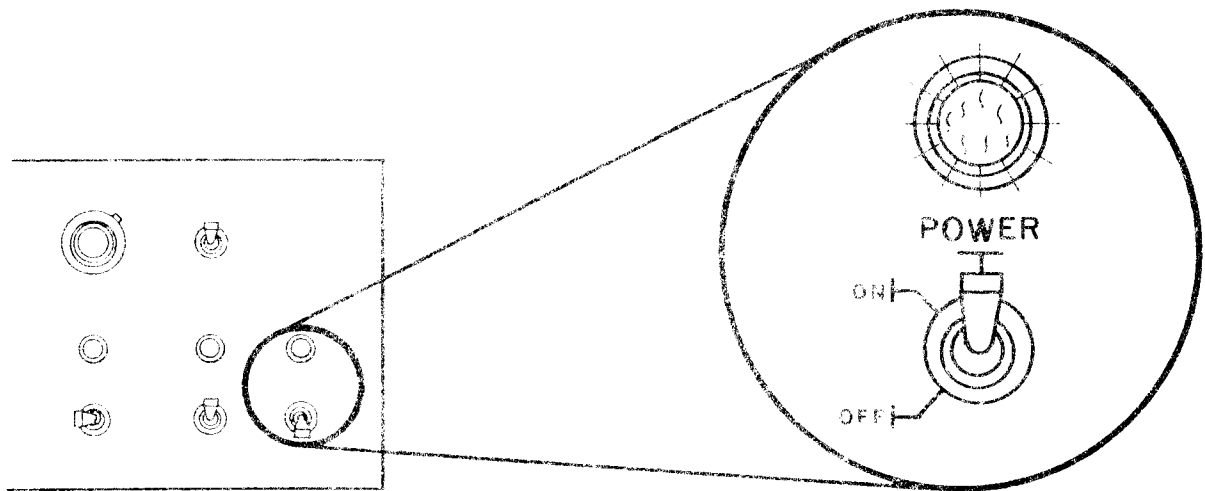

Figure 71. POWER Switch to ON
- f. On the front panel, flip the POWER switch to ON (see Figure 71).